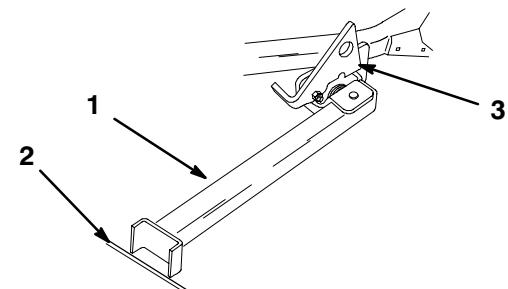

Figure 16
4. Set foot of stand on ground and rest latch on pivot tab (Fig. 16).
Note: For best results, place foot of stand into seams in sidewalks or into turf (Fig. 16).